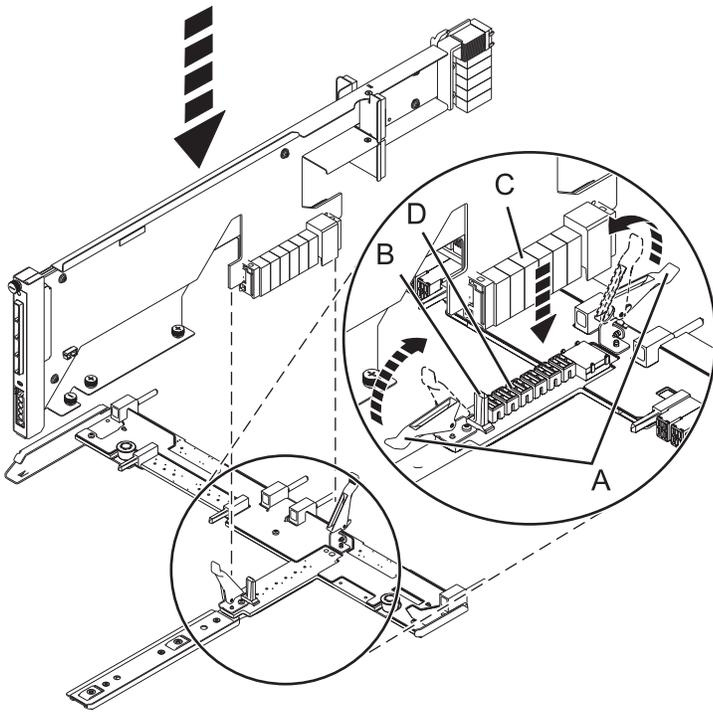

Figure 84. Installing the SAS conduit card into the midplane
- a. Place the card connector (C) on the midplane connection (D) using the guide track (B) to ensure a good connection.
- b. Lift the handle (A) to seat and secure the SAS conduit card to the midplane as shown in Figure 84 on page 122.